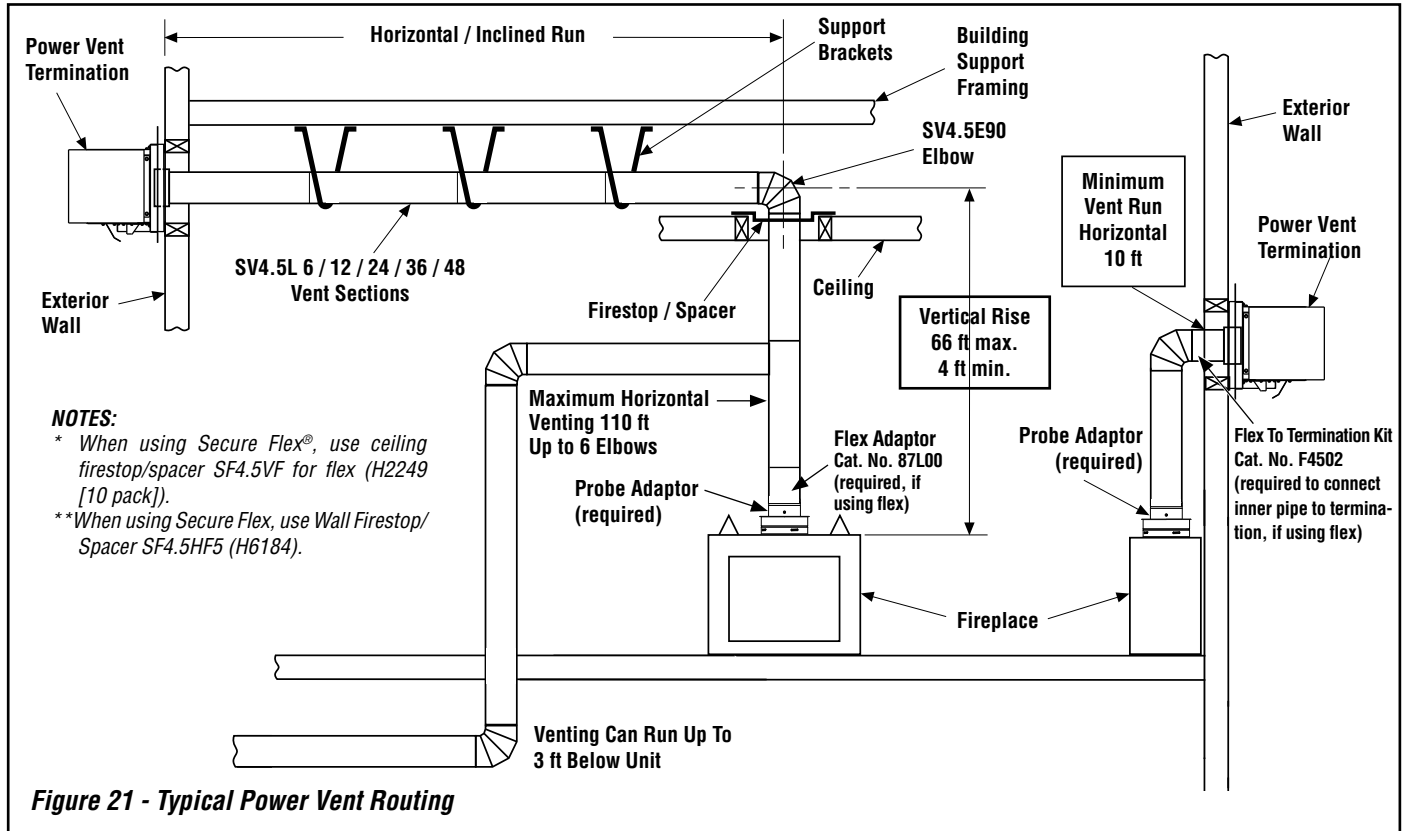
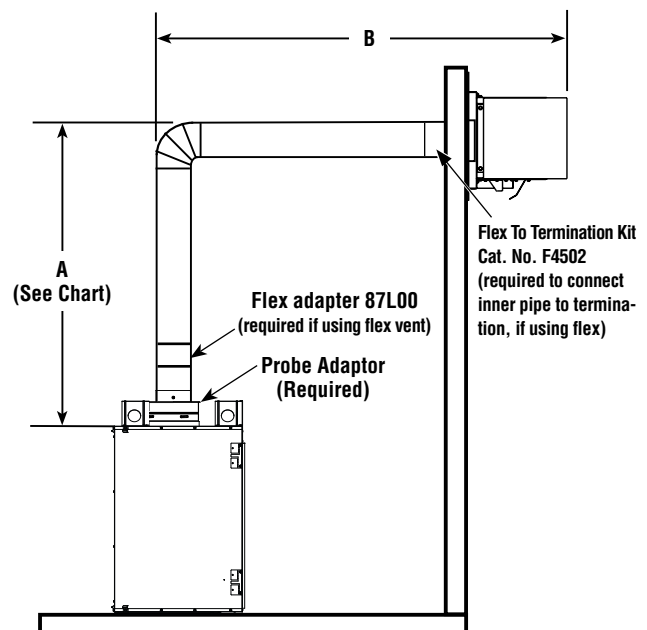

Figure 21 - Typical Power Vent Routing
Figure 22 - Power Vent Routing with Probe Adaptor
C. Attach vent components to each other. Other vent sections may be added to the previously installed section in accordance with the requirements shown in **Figures 21 and 22 on Page 19**.
G. Continue installation of horizontal/inclined sections. Continue with the installation of the straight vent sections in horizontal/inclined run as described in **Step C**. Install support straps every 3' (914 mm) along horizontal/inclined vent runs using conventional plumber's tape (see **Page 19, Figure 21**).
See **Figures 21 and 22 on Page 19** illustrating the various horizontal venting configurations that are possible for use with these appliances. The table in **Figure 22 on Page 19** shows each system's minimum and maximum vertical and horizontal length values that can be used to design and install the vent components in a variety of applications.
See **Figure 21 on Page 19**.